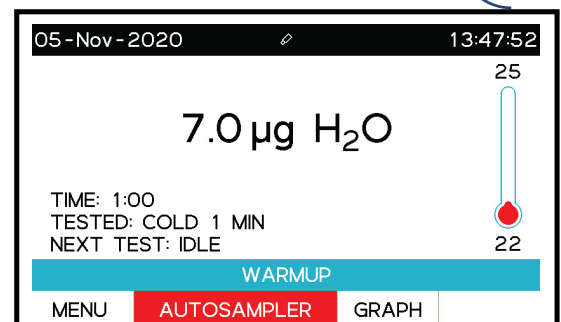

Figure 5
- From the VPXL main menu, select the AUTOSAMPLER button (fig. 5).